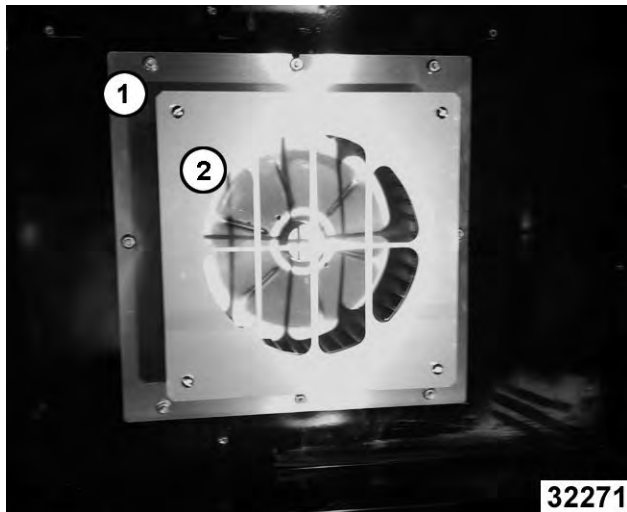

Fig. 25
5. Remove blower baffle screws (2, Fig. 25) if applicable.
6. Remove motor mounting plate nuts (1, Fig. 25).